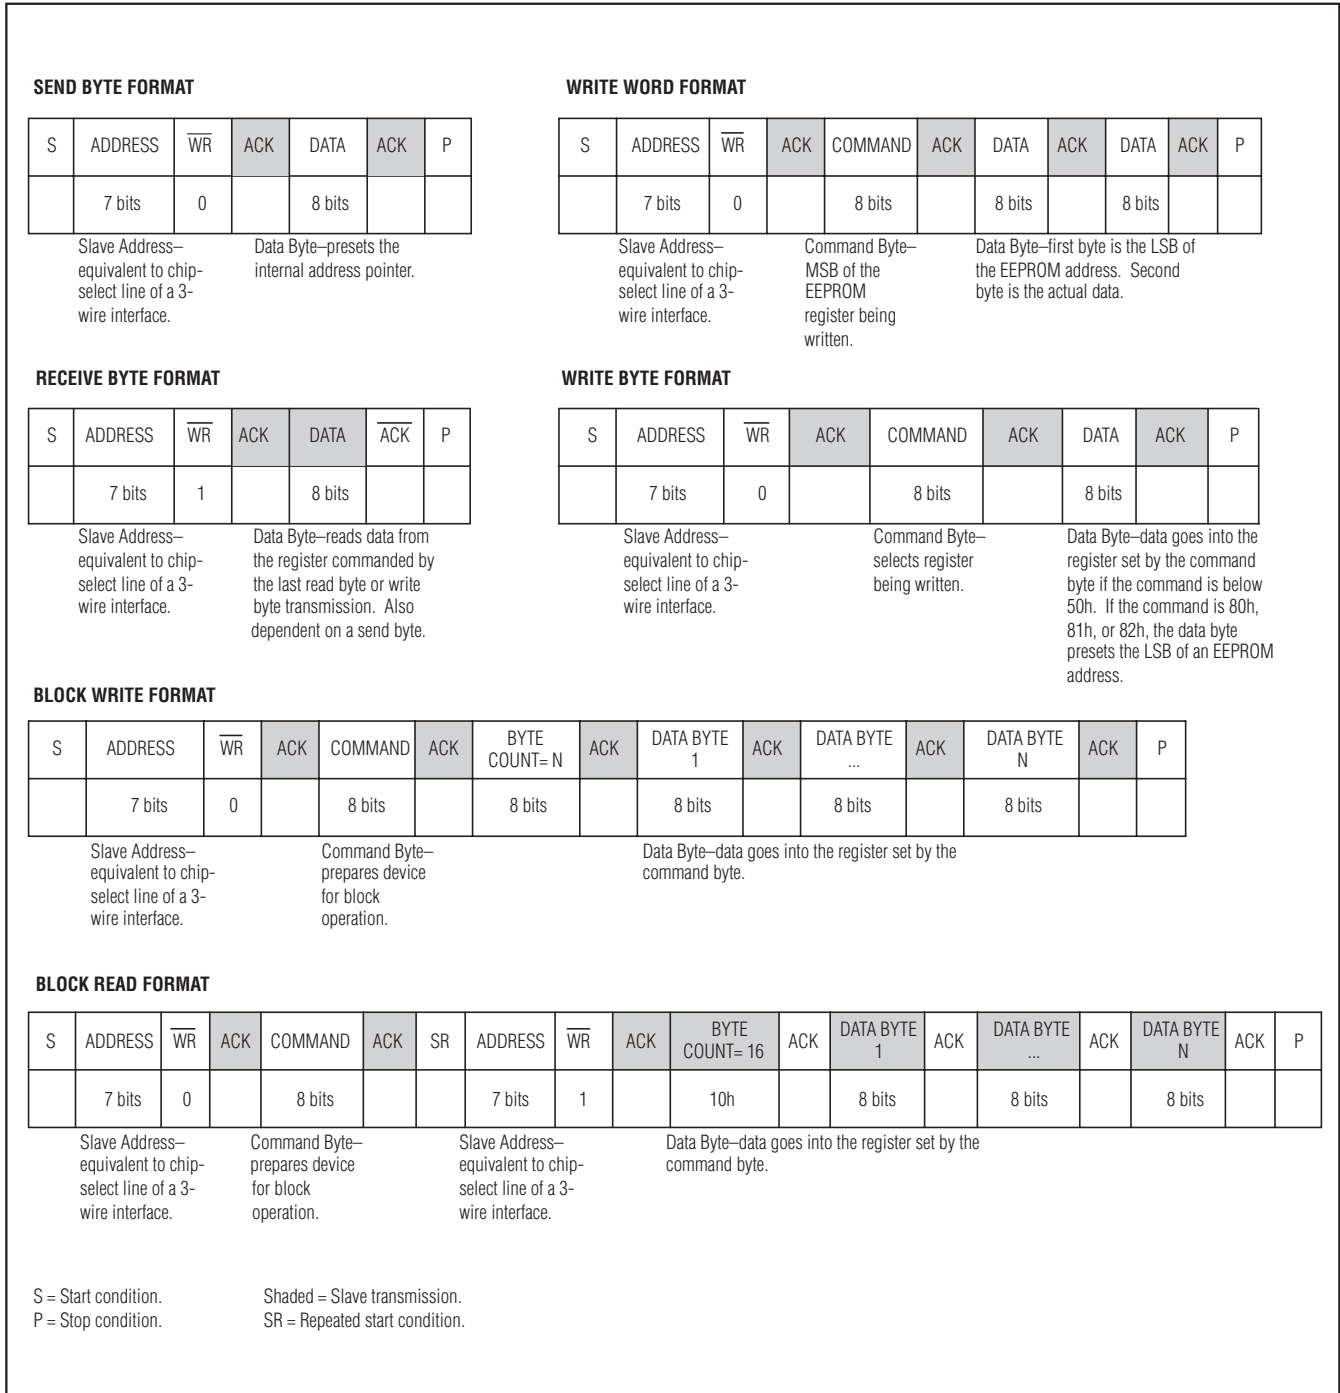

Figure 7. SMBus/I²C Protocols
condition frees the bus for another transmission. The bus remains active if a REPEATED START condition is generated, such as in the block read protocol (see Figure 7).
A REPEATED START (SR) condition may indicate a change of data direction on the bus. Such a change occurs when a command word is required to initiate a read operation (see Figure 7). SR may also be used when the bus master is writing to several I²C devices and does not want to relinquish control of the bus. The MAX6870/MAX6871 serial interface supports continuous write operations with or without an SR condition separating them. Continuous read operations require SR conditions because of the change in direction of data flow.
The send byte protocol allows the master device to send one byte of data to the slave device (see Figure 7). The send byte presets a register pointer address for a subsequent read or write. The slave sends a NACK instead of an ACK if the master tries to send an address that is not allowed. If the master sends 80h, 81h, or 82h, the data is ACK. This could be start of the write byte/word protocol, and the slave expects at least one further data byte. If the master sends a stop condition, the internal address pointer does not change. If the master sends 84h, this signifies that the block read protocol is expected, and a repeated start condition should follow. The device reboots if the master sends 88h. The send byte procedure follows:
The write byte/word protocol allows the master device to write a single byte in the register bank, preset an EEPROM (configuration or user) address for a subsequent read, or to write a single byte to the configuration or user EEPROM (see Figure 7). The write byte/word procedure follows:
The block write protocol allows the master device to write a block of data (1 to 16 bytes) to the EEPROM or to the register bank (see Figure 7). The destination address must already be set by the send byte or write byte protocol and the command code must be 83h. If the number of bytes to be written causes the address pointer to exceed 45h for the configuration register or configuration EEPROM, the address pointer stays at 45h, overwriting this memory address with the remaining bytes of data. The last data byte sent is stored at register address 45h. If the number of bytes to be written exceeds the address pointer FFh for the user EEPROM, the address pointer loops back to 00h, and continues writing bytes until all data is written. The block write procedure follows:
The receive byte protocol allows the master device to read the register content of the MAX6870/MAX6871 (see Figure 7). The EEPROM or register address must be preset with a send byte or write word protocol first. Once the read is complete, the internal pointer increases by one. Repeating the receive byte protocol reads
The block read protocol allows the master device to read a block of 16 bytes from the EEPROM or register bank (see Figure 7). Read fewer than 16 bytes of data by issuing an early STOP condition from the master, or by generating a NACK with the master. The send byte or write byte protocol predetermines the destination address with a command code of 84h. The block read procedure follows: